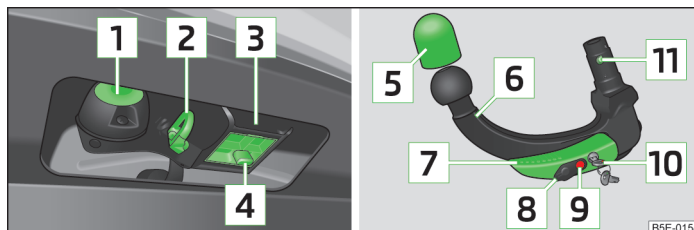

Fig. 146 Carrier of the towing device/ball rod
- Pull of the cap » Fig. 146 on page 152 downwards.
- Place the cap [4] » Fig. 146 on page 152 on the mounting recess.